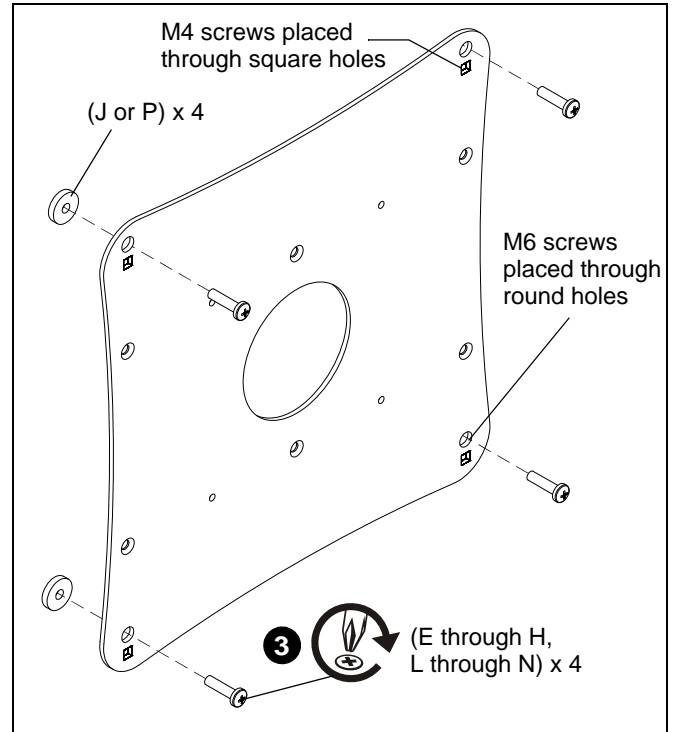

Figure 2
3. Use four nylon spacers (J or P) and four Phillips cap head screws (E through H, L through N) to attach JSB210 interface bracket to the display back. (See Figure 2)